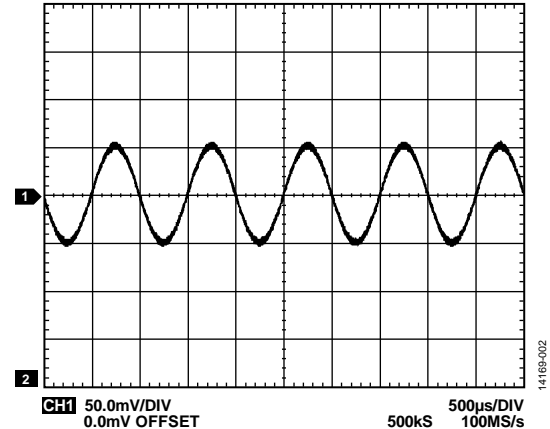

Figure 2. Output of the AD8253-EVALZ when  $G = 1$
3. Observe the output of the AD8253-EVALZ evaluation board on the oscilloscope. The output must look similar to Figure 2, showing a signal of 50 mV in amplitude.